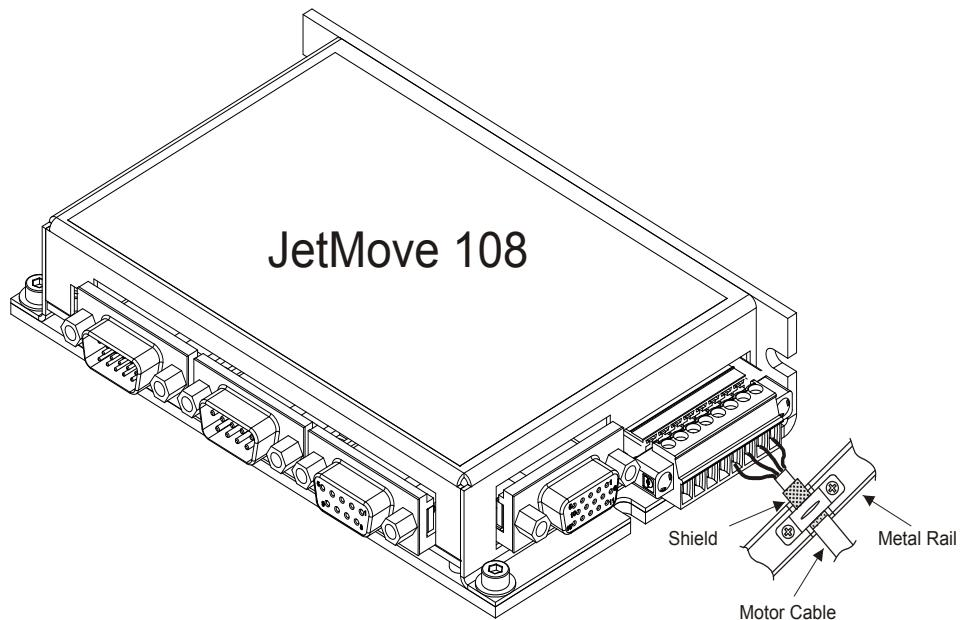

Fig. 2: Shielding of screw terminals to EMC standards
- It is important that shield and strain relief are highly conductive and directly connected to a grounded surface with the greatest possible surface area. When doing so, grounding must be implemented in a way that the unshielded portion of the cable is as short as possible (refer to Fig. 2).
- Connect the motor leads according to Fig. 2, page 18.